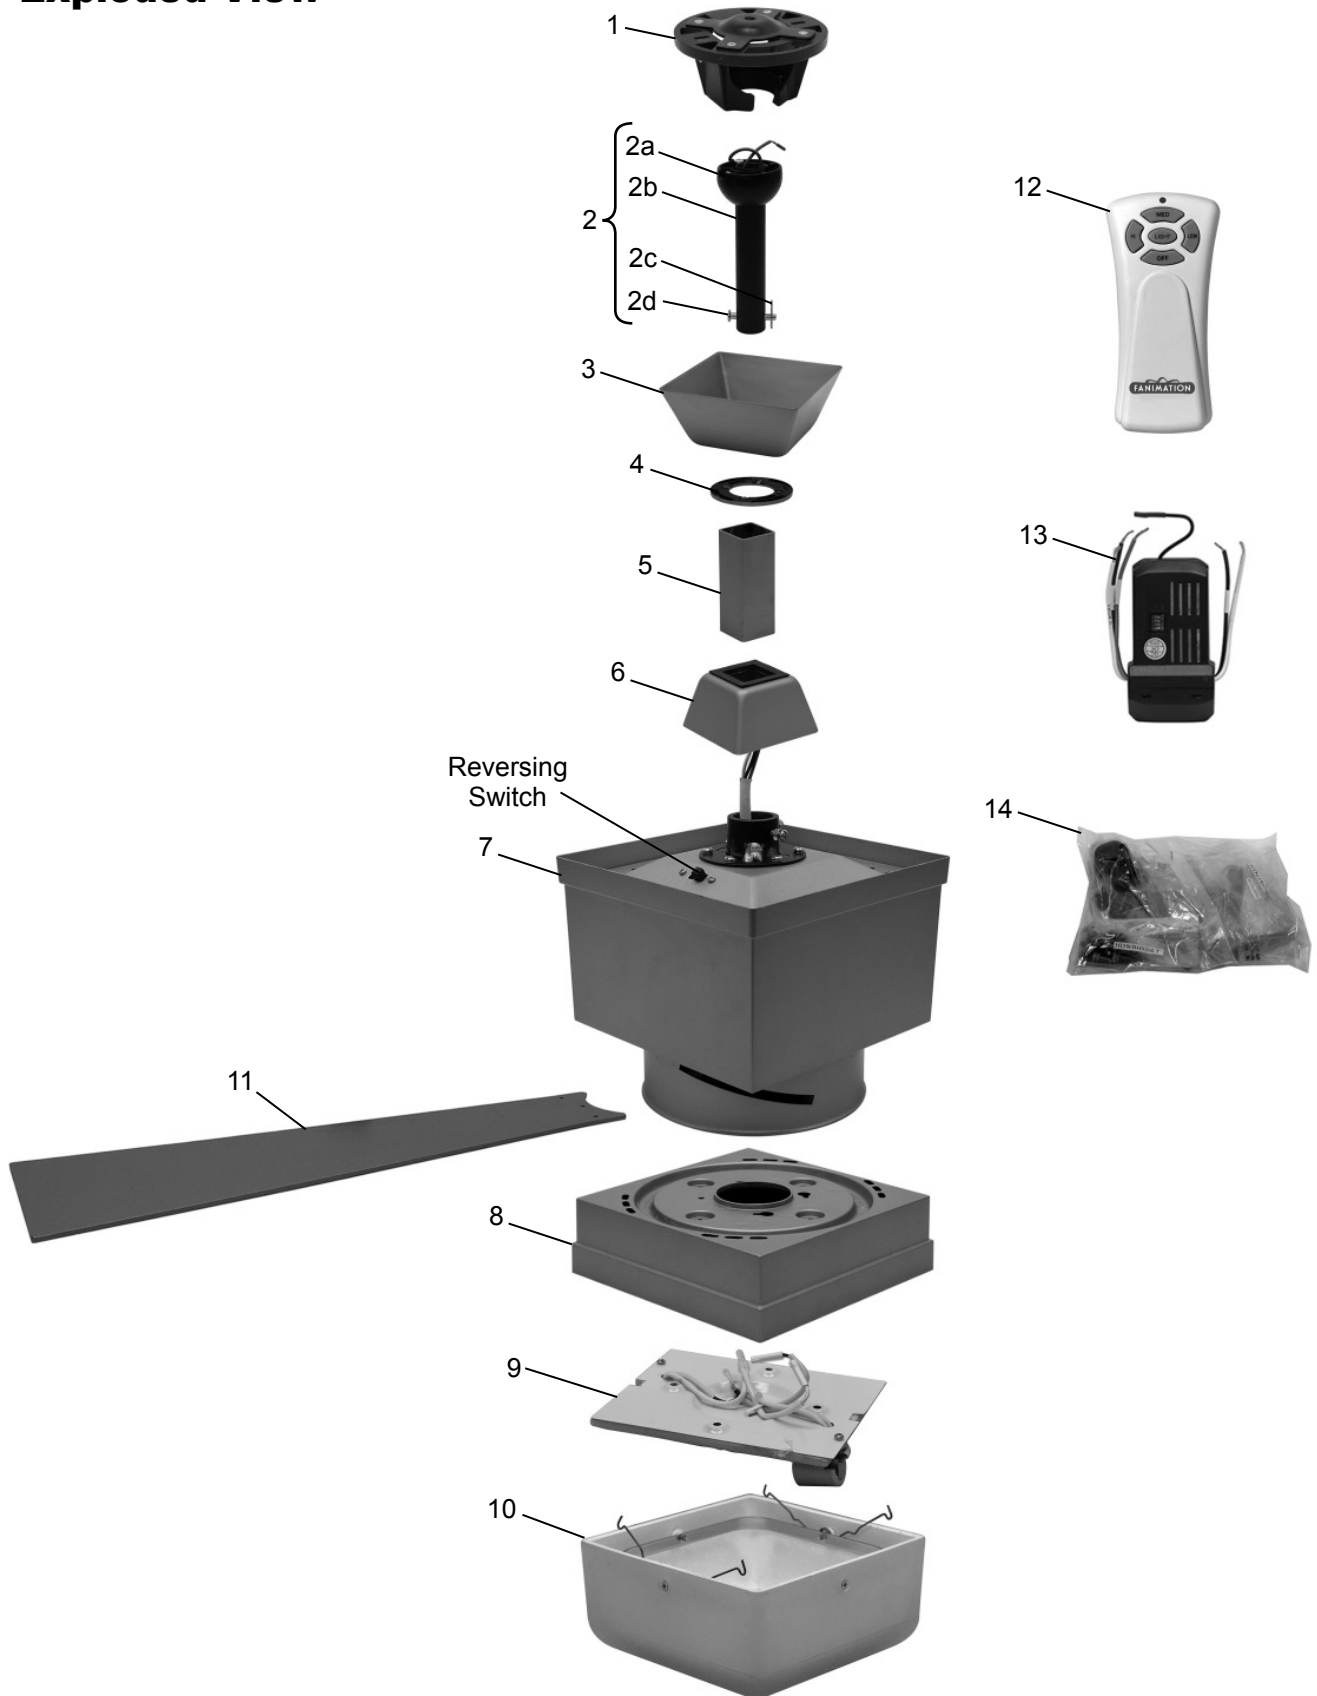

Figure 1
1. Attach blades to the motor hub using the provided washer head screws and fiber washers. Make sure the screws securing the blades to the motor hub are tight and are properly seated. Do not overtighten. (Figures 1, 2, 3)
1. Loosen three screws and remove one screw from support flange. (Figure 1).
1. Operating & Using Remote Transmitter (Figure 1): Install 9 volt battery (If not using for long periods of time, remove battery to prevent damage to transmitter). Store the transmitter away from excess heat or humidity.